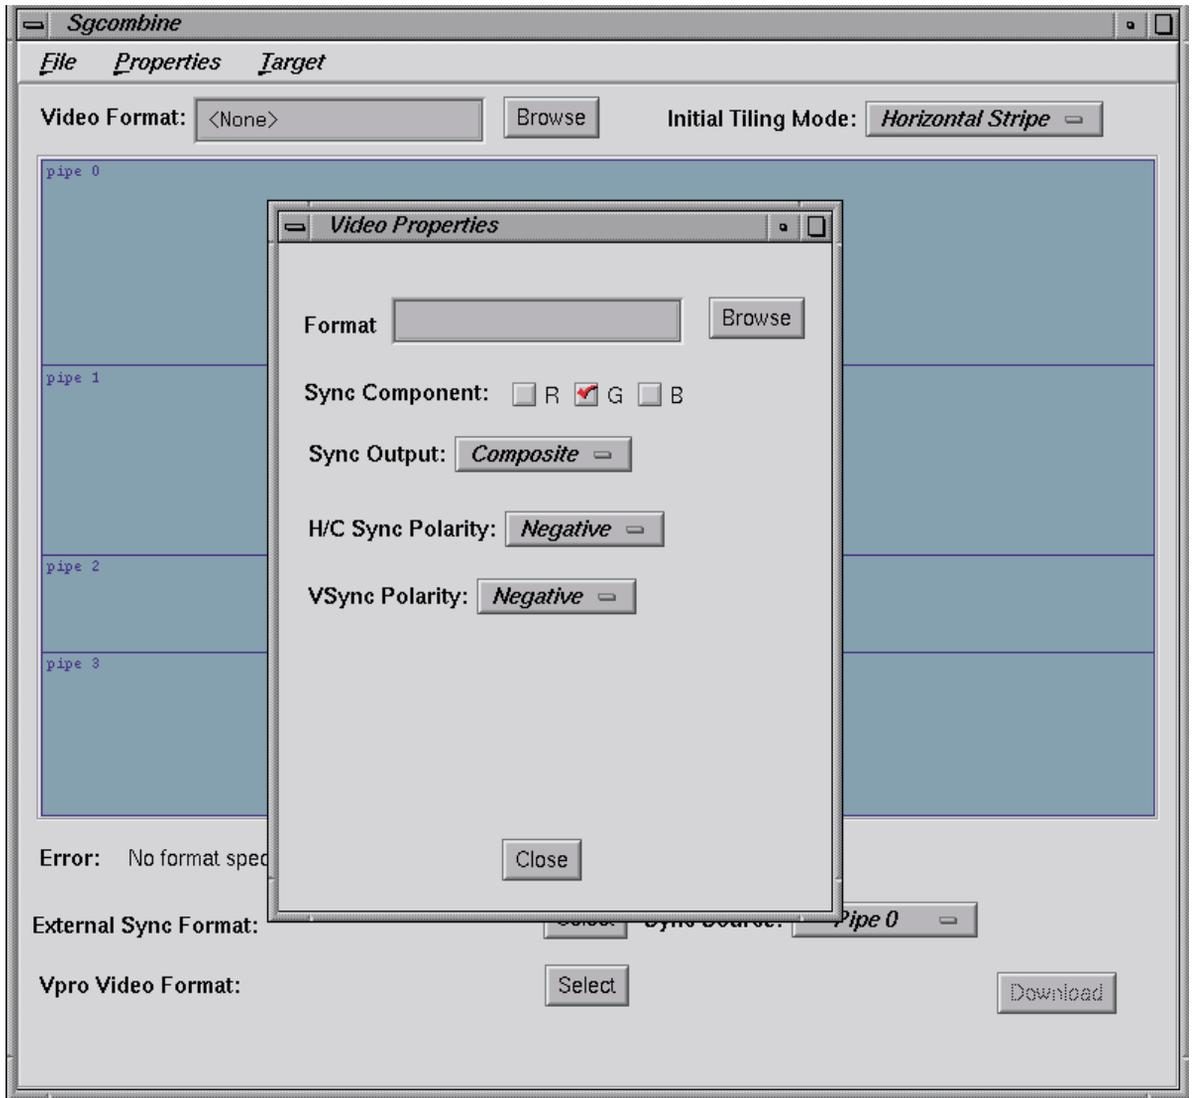

Figure 4-5 Video Properties Window Example
6. From the **Sgcombine** main window, select **Properties**, and then select **Video Properties**, to see the **Video Properties** window shown in Figure 4-5. From this window, you can configure the output video so that it is compatible with your video monitor, as follows: